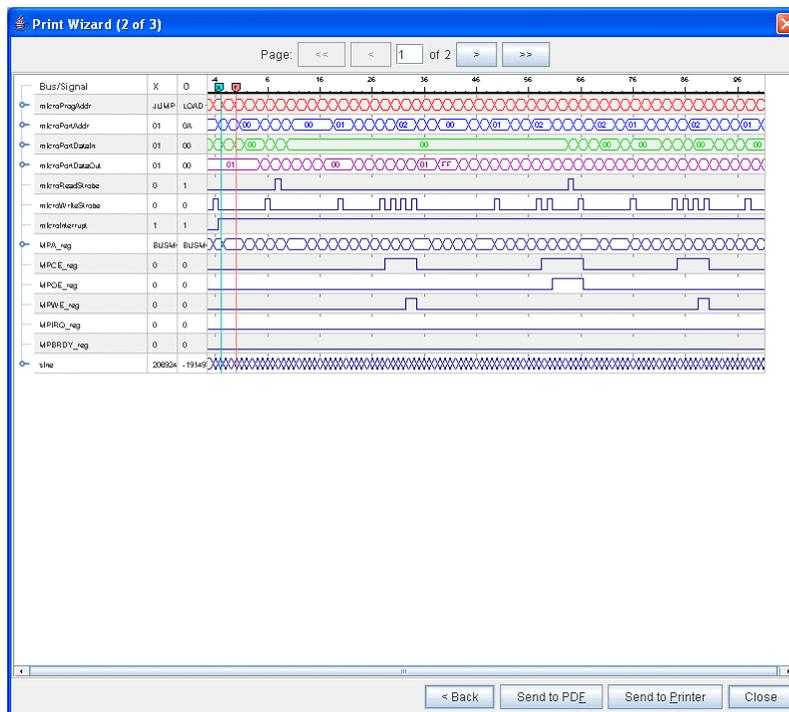
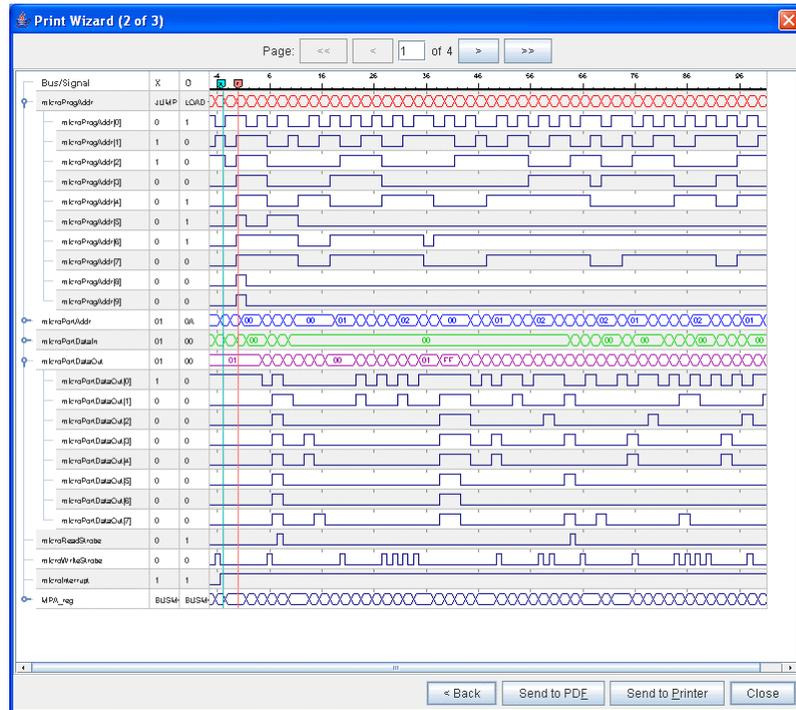

Figure 4-8: Print Wizard (2 of 3)
Figure 4-9: Expanding Buses in Print Wizard (2 of 3)
2. (2 of 3) is the Print waveform printout preview navigator window (Figure 4-8, page 108)
The second Print Wizard window (Figure 4-8) shows a preview of the waveform printout.
The buttons at the bottom of the Print Wizard (2 of 3) window (Figure 4-8) are defined as follows:
You can manipulate the waveform by expanding and contracting the buses in the print preview window. For example, if you expand a bus in Figure 4-8, page 108 such that it pushes other signals/buses to another page, the total print preview page count at the top will change accordingly, as shown in Figure 4-9.